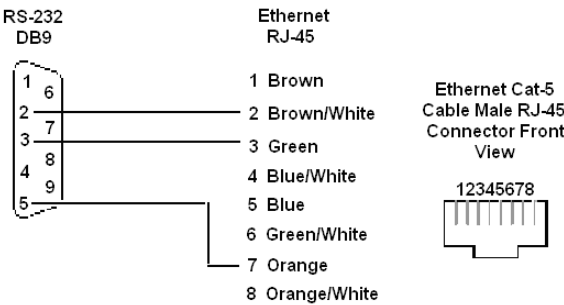

Figure 1.2 RS-232 Network Connection
- ☐ **4.2:** Connect the RJ-45 port on the front of the V7 drive to the controller serial port. Use a DB9 to RJ-45 adapter with a standard Ethernet CAT-5 patch cable or use Yaskawa cable UWR00468-2. **Do NOT connect this cable to an Ethernet port** on the controller, as damage to the controller and/or V7 drive may result. Refer to *Figure 1.2 – RS-232 Connections*.